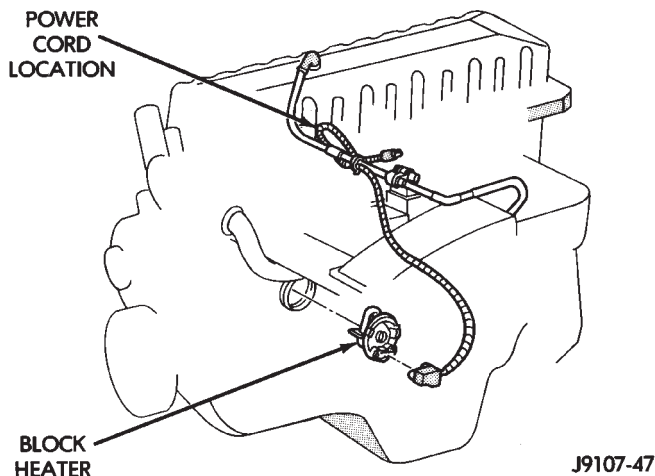
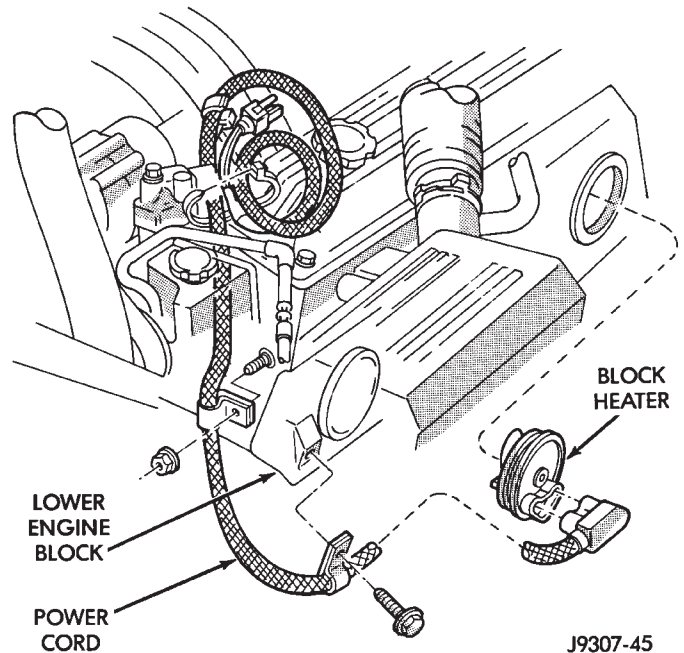

Fig. 59 Block Heater—4.0L Engine
Fig. 60 Block Heater—5.2/5.9L Engines
(5) Remove power cord from block heater (Fig. 59) (Fig. 60).
(6) Loosen screw at center of block heater. Remove heater assembly.